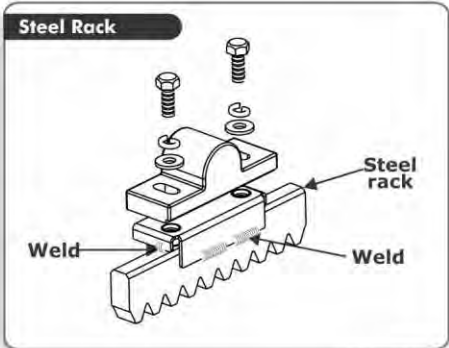
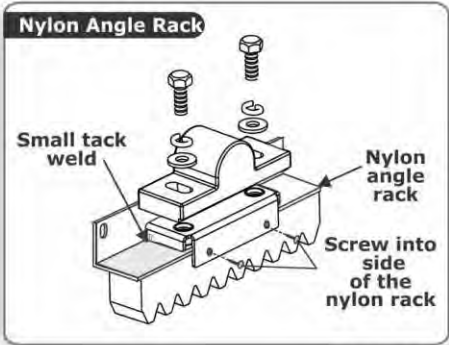

FIGURE 32
FIGURE 33
2. Mount the origin marker to the rack a minimum of 500mm from the origin sensor. Refer to Figure 32, isometric view A or plan
3. Mount the origin marker onto the rack using the bracket provided referring to Figure 32 if mounting onto steel rack or Figure 33 if onto nylon angle rack.
4. With nylon angle rack it is preferable to use self tapping fasteners into the side of the nylon angle rack as shown in Figure 33. Note the orientation of the origin marker..